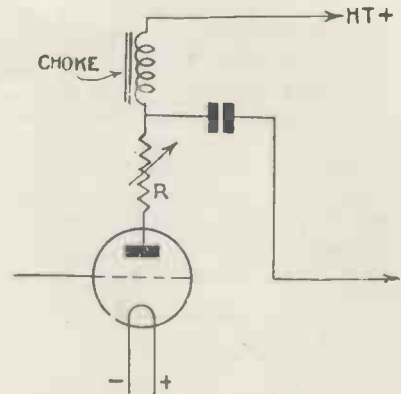
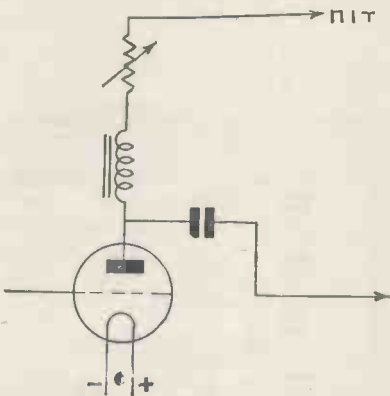

Fig. 4.—Another suggested method of tone control, but it is not recommended by the author
Fig. 5.—This method of tone control is distinctly better than that shown in Fig. 4, but it is not by any means ideal
Fig. 4 illustrates a third method. The low-frequency choke can have an inductance of 100 to 250 henries and the variable resistance (R) can be of the order of a 100,000 ohms. The larger the resistance, the more the high notes will suffer, and vice
In Fig. 5 we see an inversion of the arrangement of Fig. 4. The choke must be of at least 250 henries inductance, while the variable resistance must be at least a .25 megohm. Reducing the value of the resistance ushers in the high notes, and vice versa.